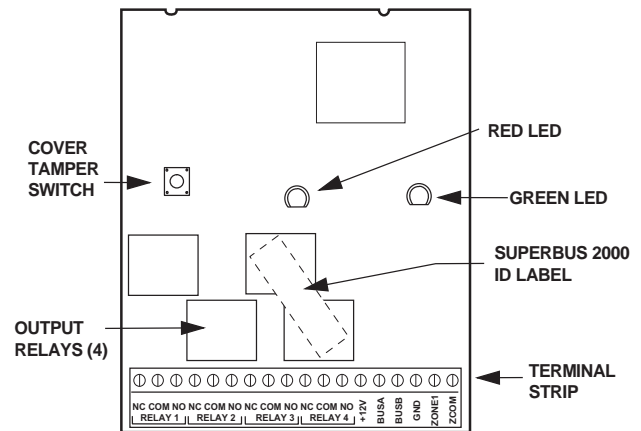

Figure 1. HOM Circuit Board Components
- Figure 1 shows the main HOM components. Table 1 describes these components